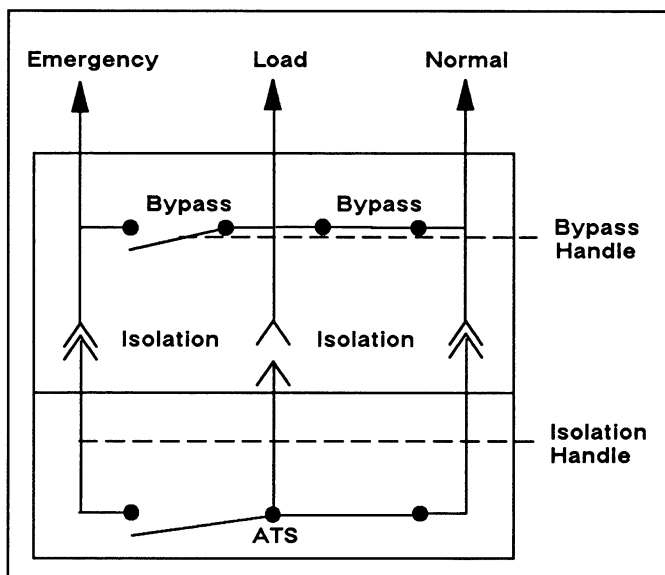

Figure 23. Test Position.
2. Move the Transfer Switch into the TEST position as follows (see Figure 23.).